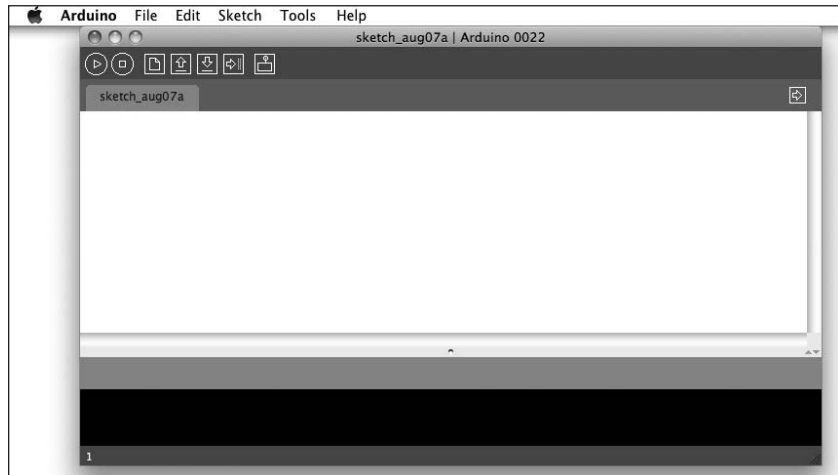

Figure 1-12: The IDE in Mac OS X
2. A window may appear warning you about opening a web app. If it does, click **Open** to continue. You will then be presented with the IDE, as shown in Figure 1-12.